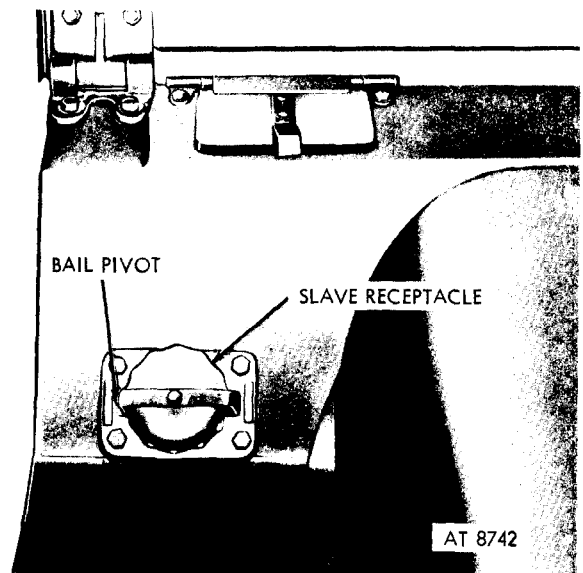

Figure 4-2. Slave receptacle.
*c. Electrical Controls.* In order to prevent damage to the heater exchanger unit of the heater, a time-delay mechanism is built into the on-off switch circuit. With this system, the blower continues to run after the switch has been turned off and fuel has ceased to flow to the burner. A temperature-sensitive switch shuts off current to the blower only when the heat exchanger has cooled to the point where warpage of the heat exchanger or other damage cannot occur. The heater control box (F) also contains an overload relay with reset feature (D) to prevent damage to the electrical wiring in case of electrical malfunction. An indicator light (C) is incorporated into the control switch panel. This light serves a double purpose. First, it indicates the burner is in operation, since it is connected to a temperature-sensitive switch. Secondly, the light continues to burn after the heater is shut off and goes out only when the burner is cool enough to ignite safely. An emergency switch (A) is furnished, covered by a safety panel, which turns off the whole heater electrical system without regard to damaging the components, etc. This switch is for use only in event of atomic or chemical warfare attack to prevent the heater from circulating contaminated air inside the vehicle.
*d. Slave Receptacle (Fig. 4-2).* An electrical slave receptacle, located on the right cowl, provides a means of starting the vehicle with a service cable connected to a cold starting aid kit (slave kit).
*b. Emergency Switch (A).* This switch is used to stop both the fuel flow and the blower motor and should be used only in an atomic or gas attack.
*c. Heater Control Switch (E).* This switch controls fuel flow for high and low heat output and stops fuel flow in the "OFF" position.
*d. Circuit Breaker Reset Button (D)* This button is used to reset the circuit breaker in the heater electrical system.
*e. Defroster Control Handle (B).* Heated air to the windshield glass is controlled by this handle.
*f. Diverter Actuator Damper Control Handle (K).* This handle is used to control air flow to the defroster or crew compartment by positioning a damper in the diverter box.
*g. Exhaust Diverter Control Handle (L).* This handle is used to divert heater exhaust gas to a shroud on the engine oil pan, when oil pan heating is desired.
*h. Indicator Light (C).* This light indicates that combustion is occurring in the heater. The light will go out during the heater "OFF" cycle.
*i. Slave Receptacle.* The slave receptacle, (fig. 4-2) located on the right front cowl panel, enables the vehicle to accept auxiliary electrical power through a service cable. The receptacle has an index slot and the female connectors are located off-center so that connections will be made correctly.
**Caution:** Too much heat will crack the windshield. Control the defroster handle (B) carefully by operating it manually.
- (4) *Control switch.* When all areas of the vehicle have warmed sufficiently, the heater control switch (E) may be snapped down to the "ON-LO" position if desired.
- (5) *Stopping heater.* Stop heater by moving the control switch to the "OFF" position. The indicator lamp will stay on, and the blower will continue to deliver air until the combustion chamber has purged of burning gas and has cooled. Cooling will normally require from two to three minutes.
- (6) *Battery heater.* Battery box heating (H) is automatically controlled. A thermostat in the box controls a damper door actuator at the right hand side of the diverter box.
- (7) *Slave receptacle.* (Refer to fig. 4-2.) Turn cap counterclockwise and lift clear of receptacle. Insert service cable connector into receptacle socket. Be sure arrow and indexing dot on service cable connector are aligned with slot in receptacle. Refer to TM 9-207 for proper use of cold starting aid kit (slave kit).